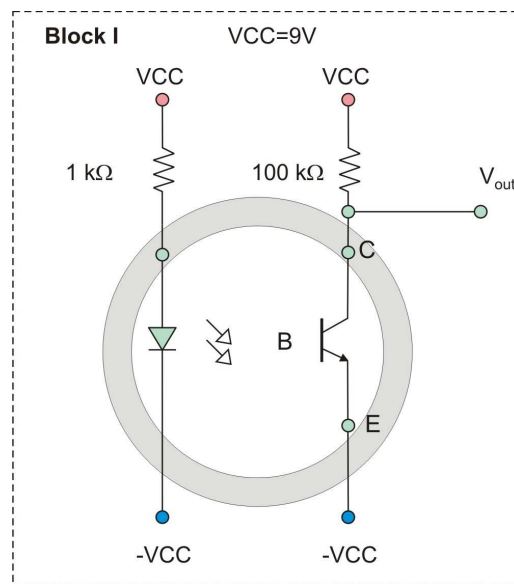

Fig. 3. Block I of the circuit - a sensor (top view). The blue LED is on the left.
5. Estimate the gain tolerance ($\pm X\%$) of the non-inverting amplifier in Fig. 3 assuming that the tolerance is determined by the errors in the resistor values. You have 5%-tolerance resistors.
The idea of the sensor is shown in Fig. 3. Infrared light is well absorbed in blood and weakly absorbed in tissue. Any changes in blood volume will be registered since increasing (or decreasing) blood volume will cause more or less light absorption. This principle is used to detect the heart rate.
The sensor includes the emitter (an infrared IR LED 940nm Digikey 751-1201-ND) and a detector (an infrared phototransistor or a photo BJT Digikey 160-1031-ND). Both are operating at 940 nm wavelength. The base current of the phototransistor is generated by incident infrared light. Therefore, the base is not connected in Fig. 3. When a finger is placed between the emitter and phototransistor, the collector current will slightly vary in response to the pulse beats. Our goal is to extract and amplify those variations.
Please build the circuit from Fig. 3 - Block I of the final circuit. Turn the power supply on. With CH 1 of the oscilloscope measure the output voltage v_{out} versus